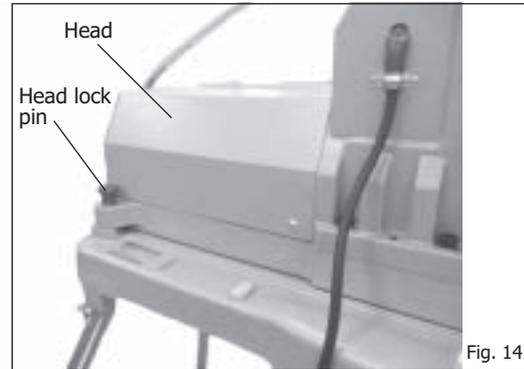

Fig. 14
- 5) Use the lock pins correctly. (Refer to Figs. 14 and 15)
### 3) Head lock pin (Fig. 14)